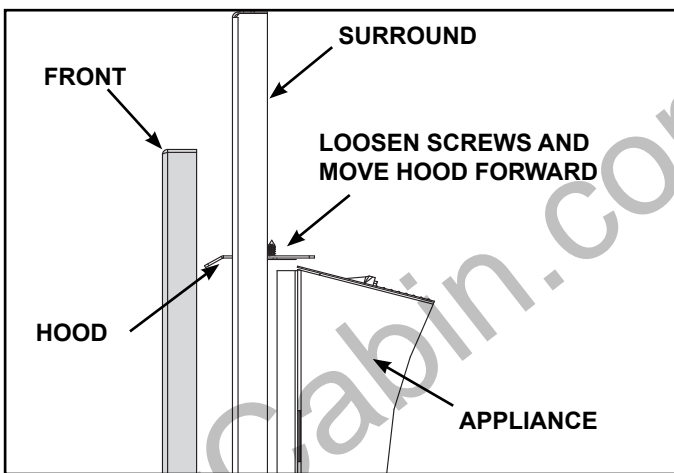

Figure 9 Position Hood
6. Slide the hood forward until it bottoms out on the front/mesh. See Figure 9 and 10.